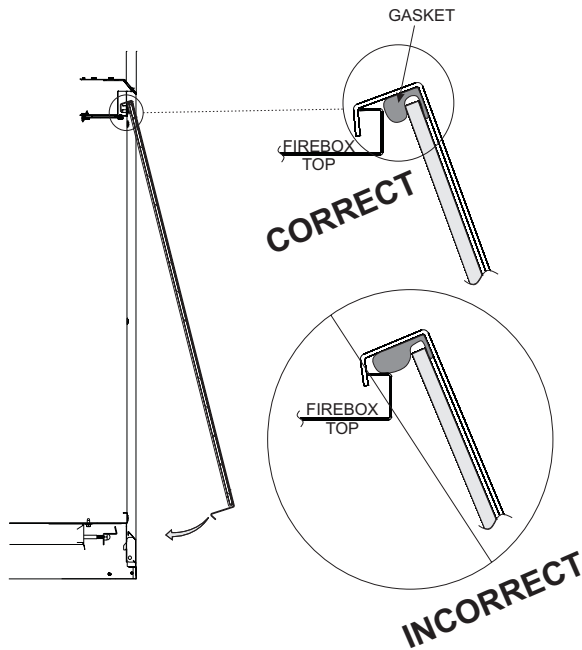

Figure 33
1. When installing the Glass Door assembly, make sure that the door top flange is hooked over the firebox top flange as illustrated in the "Correct" view in Figure 33.
**Important: Do not allow the gasket across the top of the door to roll up on top of the firebox flange as shown in "Incorrect" view in Figure 33.**